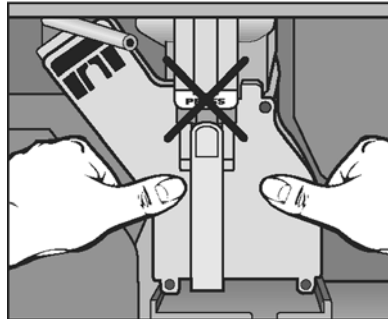

Figure 5-20: Brew unit installation
8. Push the brew unit in the track straight into the appliance without pressing "PRESS" until it clicks in place (see figure 5-20).